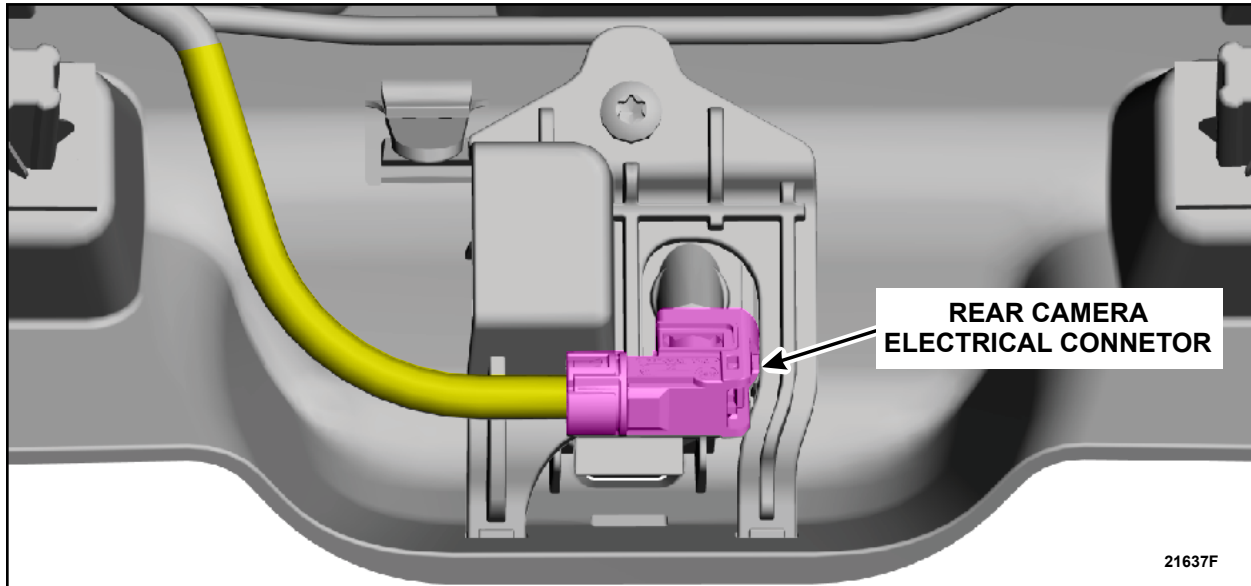

FIGURE 14
- 2. Disconnect the rear view camera electrical connector. See Figure 14.*